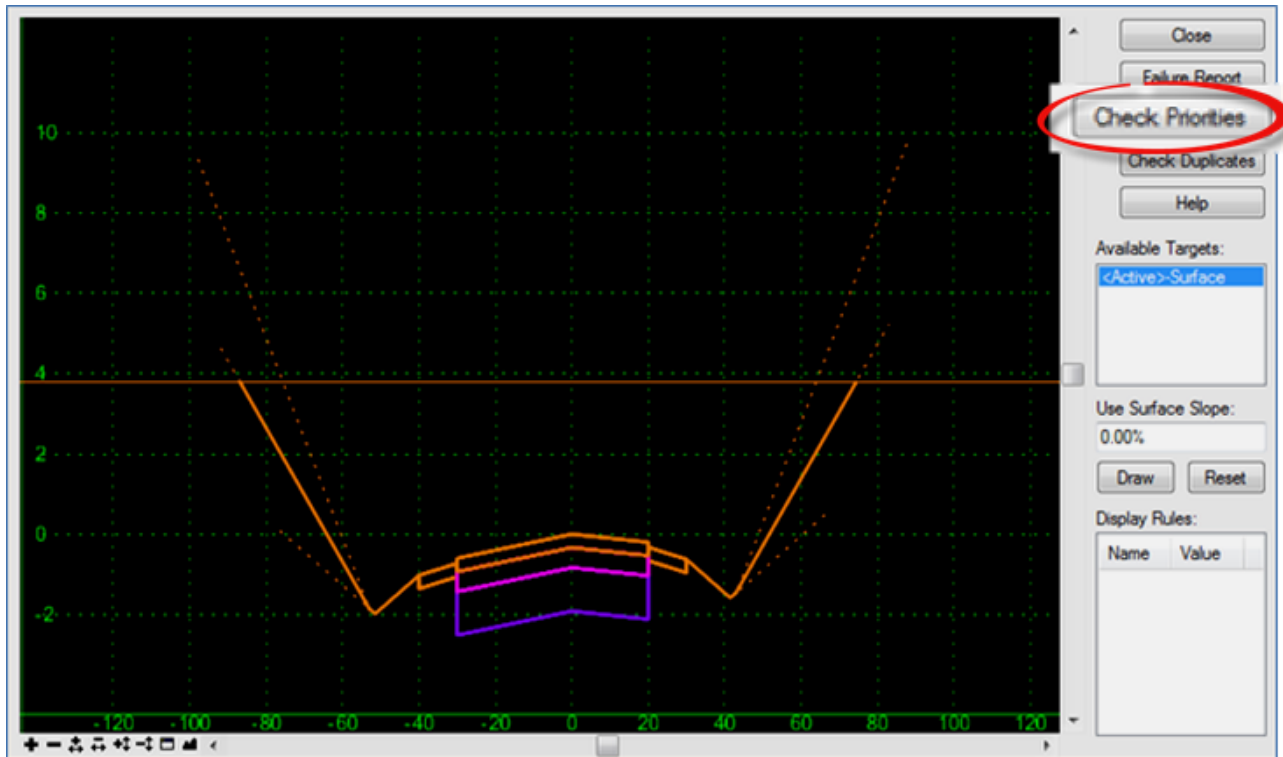

Figure 6-23 InRoads Test end Conditions Dialog Box
- E. Click on the **Check priorities** box within the test template interface window shown in Figure 6-23.